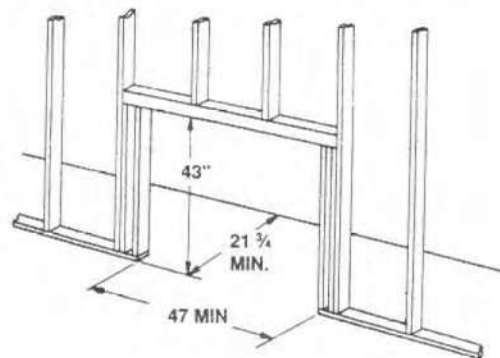

Figure 7
**STEP 1:** Construct the framing using the dimensions in Figure 7. **NOTE:** If you are using a raised platform, add the raise height.